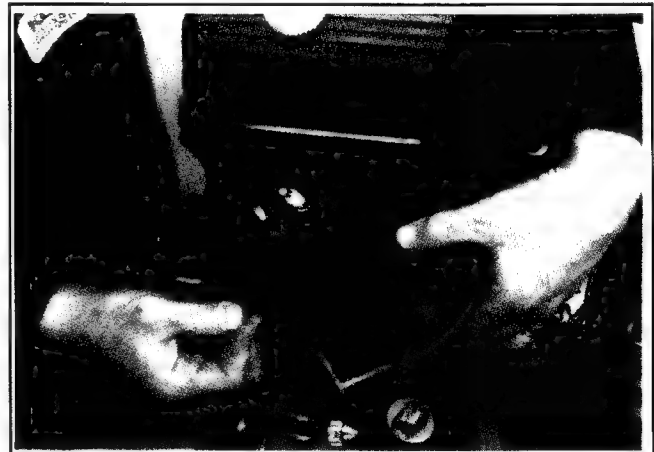

Figure 11-47. Installing #2 Side Baffle.
1. Install the #2 cylinder side baffle and secure with one hex. flange screw. Leave screw slightly loose at this time. See Figure 11-47.